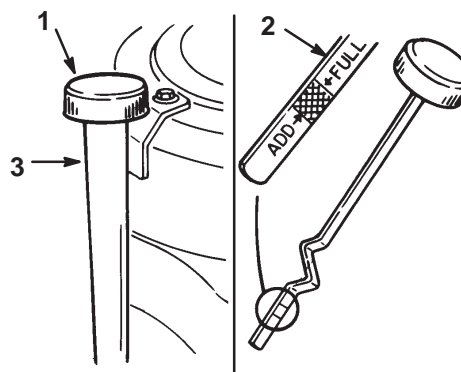

Figure 13
3. Clean around the oil dipstick (Fig. 13) so that dirt cannot fall into the filler hole and damage the engine.
4. Unscrew the oil dipstick and wipe the metal end clean (Fig. 13).
5. Screw the oil dipstick fully onto the filler tube (Fig. 13). Unscrew the dipstick again and look at the metal end. If the oil level is low, slowly pour only enough oil into the filler tube to raise the level to the Full mark.
6. Slowly pour approximately 80% of the specified amount of oil into the filler tube (Fig. 13). Check the oil level; refer to Checking the Oil Level, page 20, steps 4–5.